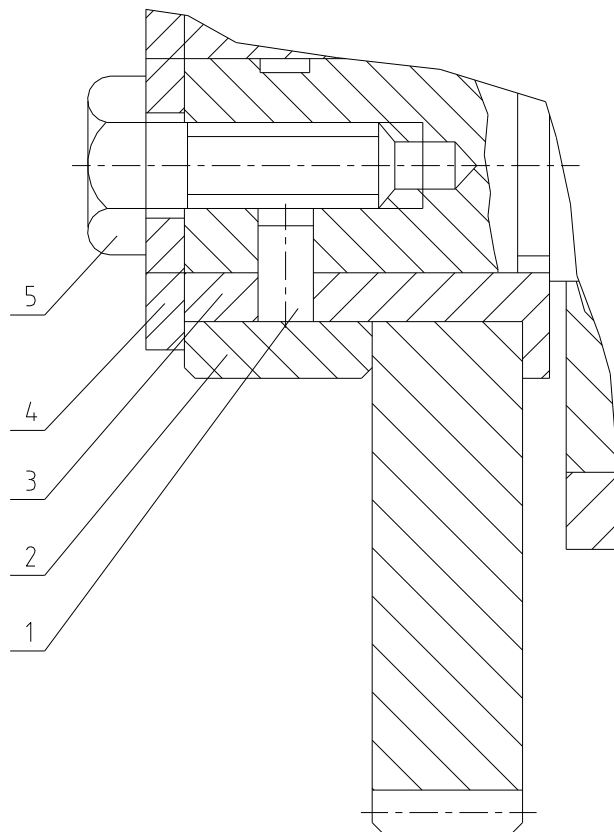

Fig.6-12
6.2.9. CHANGE THE SHARE PIN ON FEED BOX OUTPUT SHAFT (See Fig.6-12)